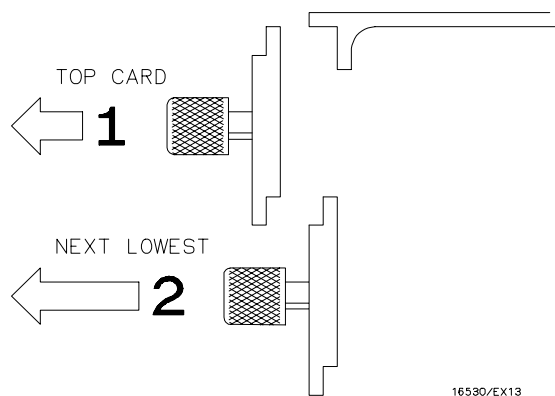

Figure 6-11. Endplate Overlap - Top Sequence
2. Starting **from the top**, loosen the thumb screws on the filler panels and the cards. See figure 6-11.